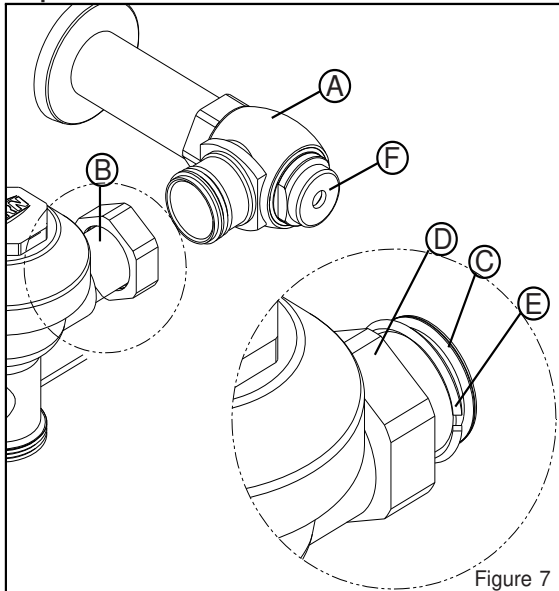

Figure 7
Slide the tube nut (H), spud nut (G), slip gasket, rubber gasket and spud escutcheon over the vacuum breaker tube and insert tube into fixture spud. Hand tighten tube nut to valve body and hand tighten spud nut onto fixture spud. Adjust the valve assembly for plumb. Tighten fixture spud nut (G), vacuum breaker tube nut (H) and lock nut (D) (fig. 7) with a wrench.
Assemble pipe, elbows, couplings, slip washers, rubber gaskets and flanges as illustrated in Figure 7. Hand tighten all couplings. Once installation is completed, tighten all connections.